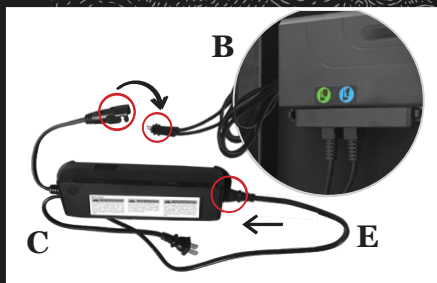

Figure 1
Connect (C) Transformer to (B) Control Box. The Control Box is the black box attached to the bottom of the bed frame. Extend the control box extension cord from (B) Control Box and attach it to the short electrical output cord on (C) Transformer. Plug (E) Power Cord into (C) Transformer. (See Figure 1.)